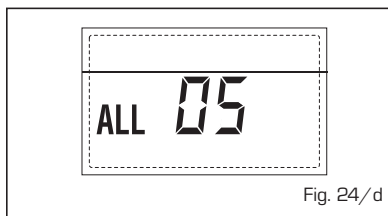

Fig. 24/d
**- BLOQUEO LLAMA "ALL 06" (fig. 24/e)**